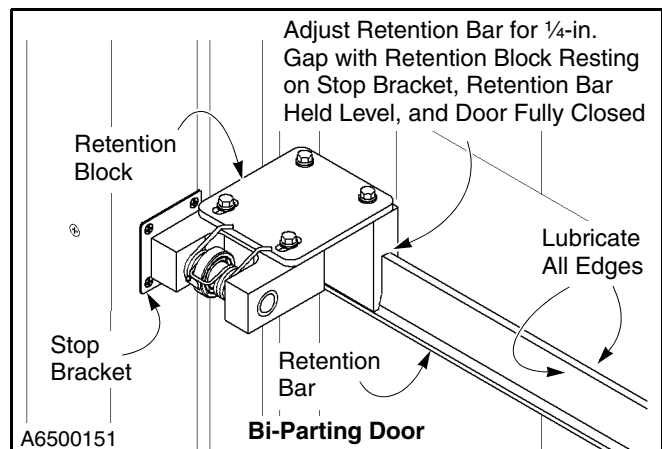

Figure 43
12. Using the synthetic lubricant that was used earlier on the door seals, apply a thin film of lubricant to the upper edges of both retention bars to ensure the retention block slides smoothly. (See Figure 43.)